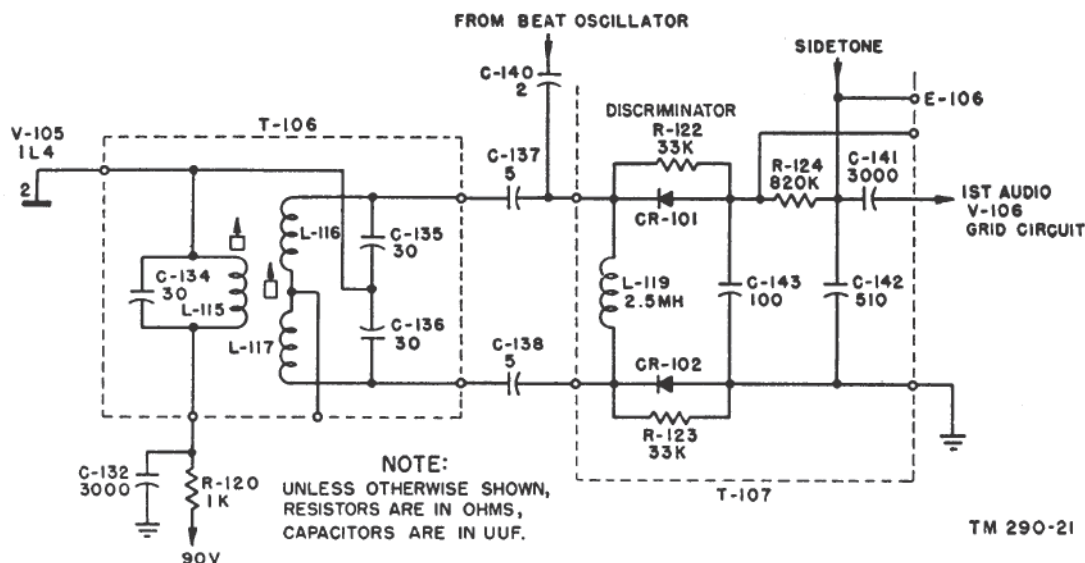

Figure 23. Receiver discriminator circuit, functional diagram.
(fig. 23)
a. Discriminating Function. The discriminator circuit shown in figure 23 is a Foster-Seely discriminator in which the dc path is slightly modified. The discriminator circuit functions to convert the frequency variations of the incoming signal into audio frequencies for application to the AF amplifier stages. Frequency variations of the signal from the 1.4-mc center frequency at the input to the discriminator are translated into amplitude variations of the signal at the output of the discriminator. The rate with which the frequency varies from the
- (1) This signal is amplified in the first RF amplifier stage, and is applied, together with the output of variable 32- to 43.4-mc oscillator V2, to the input of the first mixer stage.
- (2) If, as required, the frequency generated by V2 is 15 mc below the frequency setting of the dial, the frequency at the output of the first mixer stage is 15 mc. If oscillator V2 is not 15 mc below the dial reading, the output of the first mixer stage is not 15 mc but some other frequency, depending on the amount by which the variable oscillator is off frequency. In the case exemplified here, the frequency generated by V2 should be 32 mc. Assuming this to be the case, the 32-mc signal from V2 and the 47-mc signal from calibrate oscillator V7 beat in the first mixer stage to produce the first intermediate frequency of 15 mc.
- (3) The 15-mc signal is then amplified and is, in turn, applied together with the 13.6 mc output of second mixer oscillator V102 to the input of the second mixer stage. The resultant beat frequency is amplified in the 1.4-mc IF amplifier limiter circuit and appears as a voltage across the input to the discriminator rectifier circuits. When the above beat frequency is 1.4 mc, the resultant voltages across the discriminator output is close to zero volts.
- (4) The 1.4-mc signal voltage and the 1.4-mc output of beat oscillator V106 are applied together to the discriminator rectifier circuit (fig. 23). The signal voltage is applied in normal manner through capac-